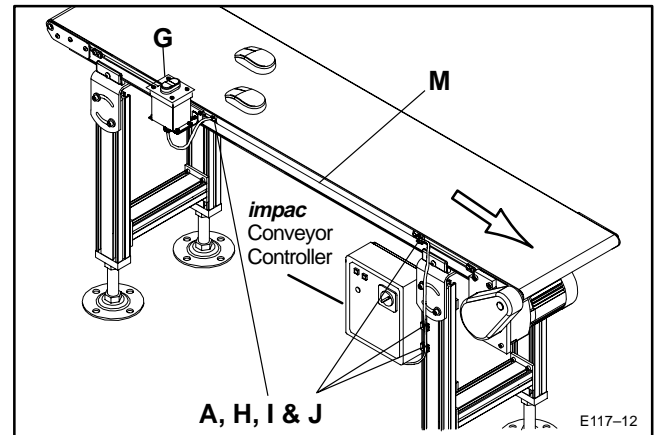

Figure 12: Start-Stop Kit Cable Routing to *impac* Conveyor Controller
- Figure 12 shows a typical wire routing of a Start-Stop connection to an *impac* Conveyor Controller using the Conveyor's T-slot with both T-slot Cover Strips and Zip Ties (J).
- Shown here is an application using a Start-Stop Station to start and stop a Conveyor (Figure 12).